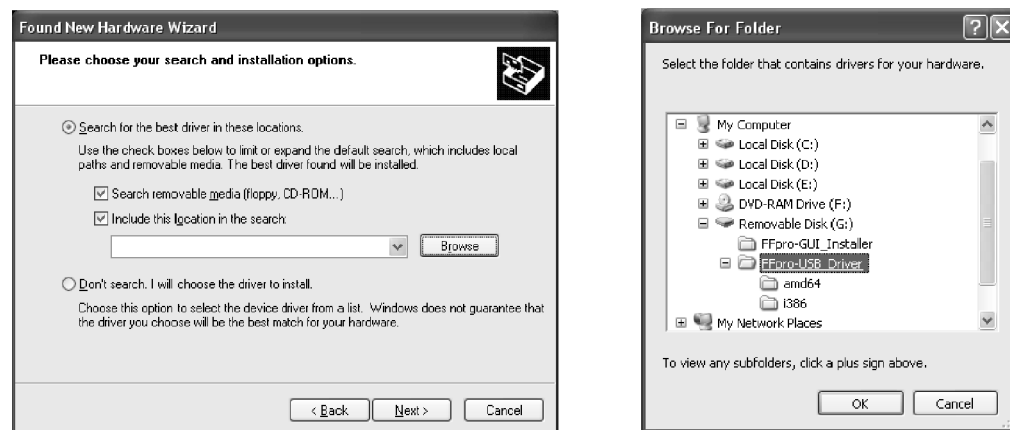

Figure 32
6. Windows will try to get some information about the found hardware and should display a "FT232R USB UART"-hardware. Please select "Install from a list or specific location" before continuing with "Next >". The next screen is shown in Figure 32.